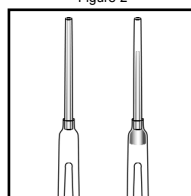

Figure 3
5. **Required for R-5005D only:** Pull the VACUette into a vertical position. A small portion of the collected sample should fall into the sleeve of the VACUette tip (fig. 3).